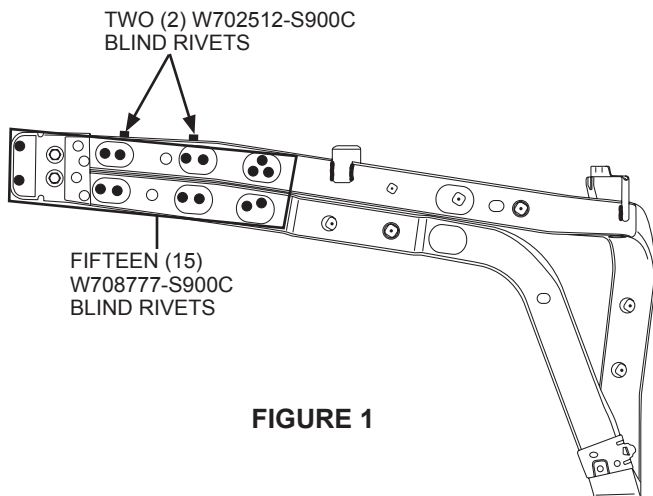

FIGURE 1
- Black squares represent location for two (2) (W702512-S900C) blind rivets.
- Black dots represent the location of fifteen (15) blind rivets (W708777-S900C) blind rivets. (Refer to Figure 1).